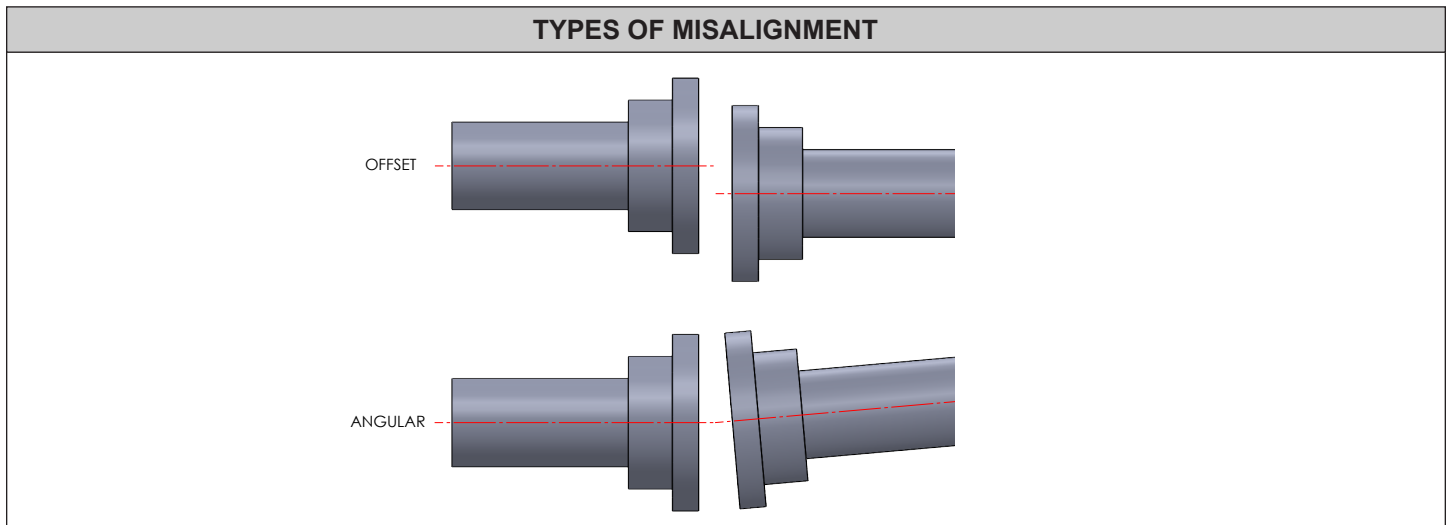

Figure 7
To one of the coupling hubs, either on the motor shaft or the pump shaft, attach a dial indicator. Mount the indicator so that the indicator button rides on the face of the other coupling hub near the outside diameter of the hub. Reference Figure 7 "TYPES OF MISALIGNMENT" on page 14. Rotate the shaft to which the dial indicator is clamped, allowing the indicator button to ride on the face of the stationary hub. The indicator dial movement will show the difference in the distance between the two hubs. This indicates the amount of angular misalignment between the hubs and therefore the shaft axes. Good practice suggest alignment to within 0.002" T.I.R. (Total Indicator Reading).
To check the offset alignment, mount the dial indicator as shown in Figure 7 "TYPES OF MISALIGNMENT" on page 14, with the indicator button on the outside diameter of the stationary hub, near the face of the hub closest to the end of the shaft. It may be necessary, on the RA2096 pumps, to slide the cooling fan (120) closer to the pump, to obtain enough clearance for the dial indicator, dependent of course upon the type of indicator used. If necessary, the fan may be removed, and replaced after the motor alignment is completed. Rotate the shaft, to which the dial indicator is clamped, allowing the indicator button to ride on the outside diameter of the stationary coupling hub. The indicator dial movement will show the difference in the center locations of the two shafts. Good practice suggest alignment to within 0.002" T.I.R.